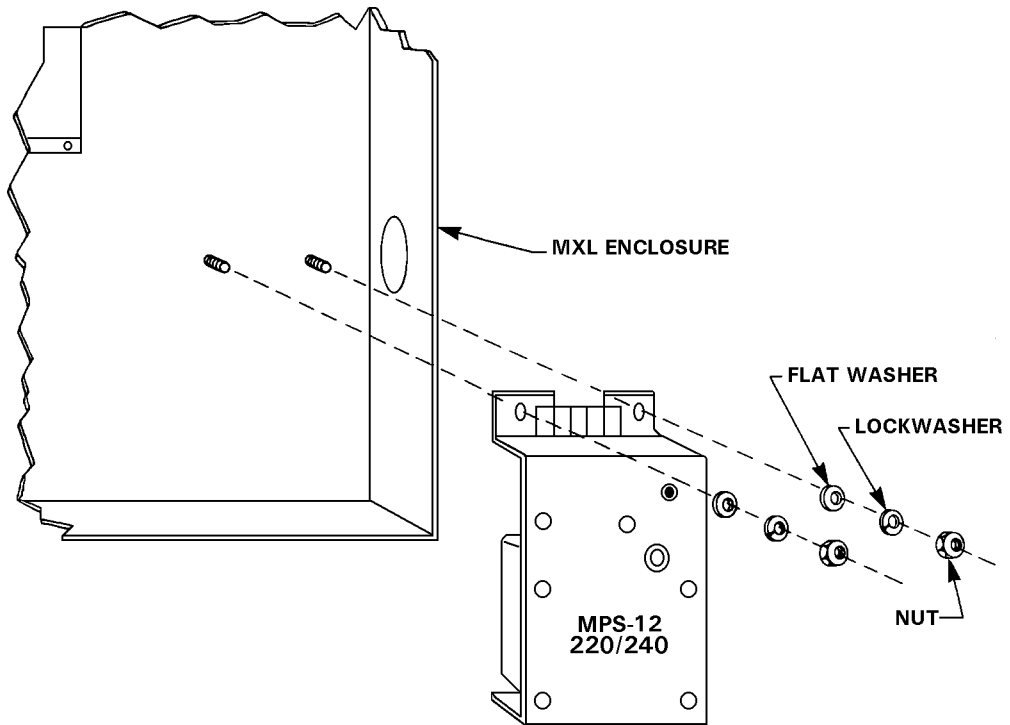

Figure 1
2. Place the mounting bracket for the MPS-12-220/240 over the two studs provided in the backbox. (Refer to Figure 1.)